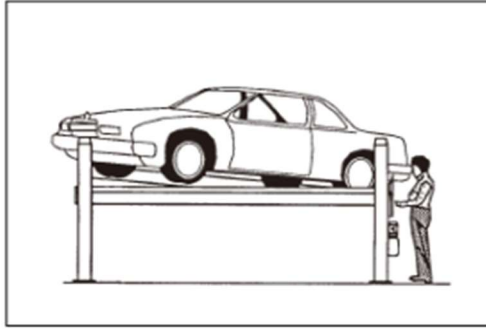

Figure 33 – Improper docking of vehicle
- An improper docking of the vehicle on the lifting platform, improperly parking the vehicle, or an oversized vehicle that does not match the lift specifications can cause the vehicle to fall at risk. (Figure 33)